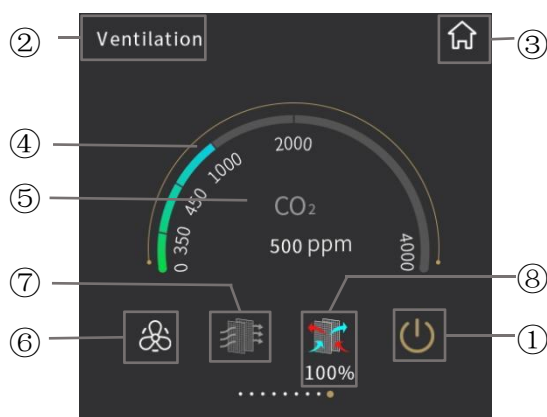
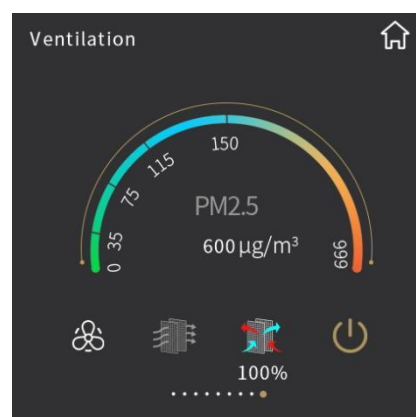
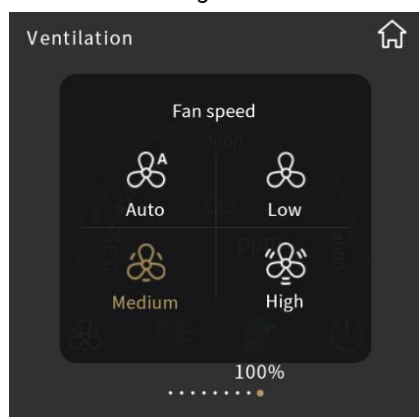

Fig.2.6.1
Fig.2.6.2
Fig.2.6.3
Only when auto fan speed control of ventilation system is enable would this interface display, as shown in Fig.2.6.1 and Fig.2.6.2.
CO2 concentration as shown in Fig.2.6.1, according to the value received from the bus, range 0~4000ppm; if the data exceed 4000ppm, then the interface will display 4000ppm.
PM2.5 concentration as shown in Fig.2.6.2, according to the value received from the bus, range 0~999ug/m³; if the data exceed 999ug/m³, then the interface will display 999ug/m³.
There is up to 4 options for fan speed mode: Auto, Low, Medium and High. When fan speed auto control is enable, auto fan speed adjustment will be displayed on the interface, shown as Fig.2.6.1 and Fig.2.6.2. Whether fan speed auto control is enable or not is configured through parameter configuration.
⑦ This icon is the filter timer icon;
Whether the filter timer counter function is enable or not is configured through parameter configuration. When disable, there will be no display of filter timer counter function on the interface as shown in Fig.2.6.1; when enable, icon⑦ will be colorful after ventilation system ON, the remaining evaluation value will be displayed next to it. The value will be updated according to the use time, which will be updated through the bus.
parameter configuration. When disable, there will be no display of heat recovery function on the interface as shown in Fig. 2.6.1; when enable, heat recovery function is turned on by default when ventilation system is ON, and the heat recovery function can be turned on or off by touching icon⑧. The icon on indicates that the heat recovery is on; the icon off indicates that the heat recovery is off. In addition, heat recovery function can be turned on or off through the bus. And there would be no responding after enable heat recovery function.
⑨ **This ring bar displays specific fan speed level;**
⑩ **To increase fan speed level by touching this icon;**
⑪ **To decrease fan speed level by touching this icon.**
When fan speed is not configured as auto, as shown in Fig.2.6.3, by touching icon⑩ and icon⑪ to adjust fan speed; for each touch of icon⑩ and icon⑪ to adjust one level, there are 3 modes of fan speed: Low, Medium and High. At this time, the adjustment is manually, not automatically according to the concentration of CO2 or PM2.5.